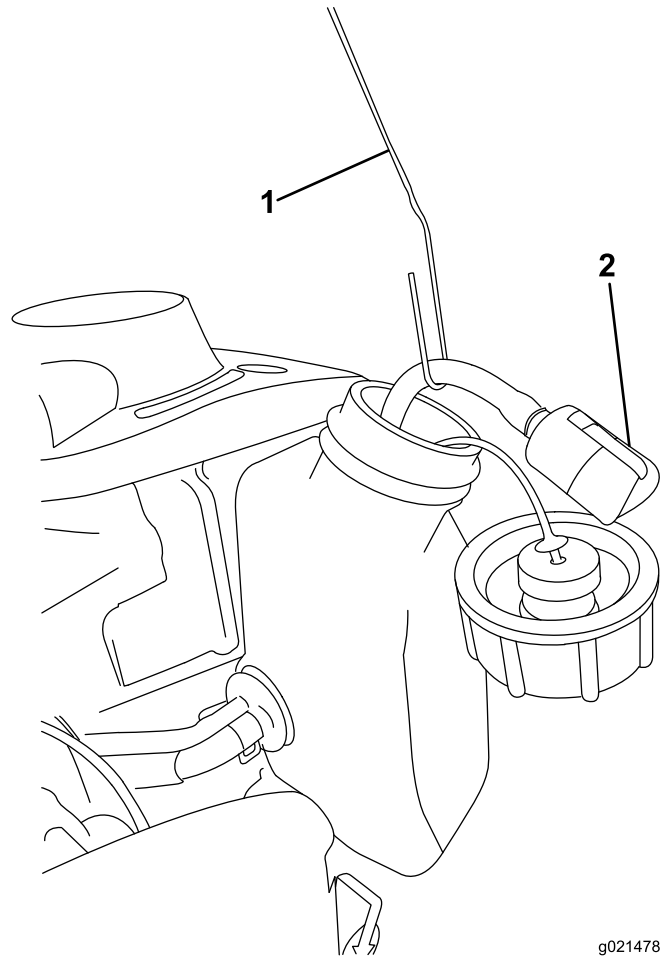

Figure 34
5. Use a bent paper clip to carefully pull the fuel filter out of the fuel tank (Figure 34).